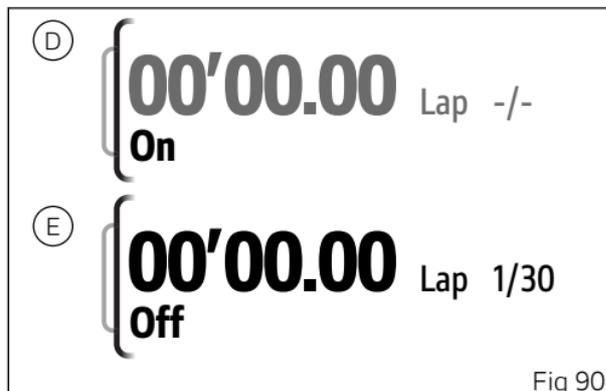

Fig 90
- If the function is disabled, "Off" is shown with the stopwatch (D, Fig 90); press ENTER button (3) to enable the function.
- If the function is enabled, "On" is shown with the stopwatch and indication of the available laps (E, Fig 90); press ENTER button (3) to disable the function.